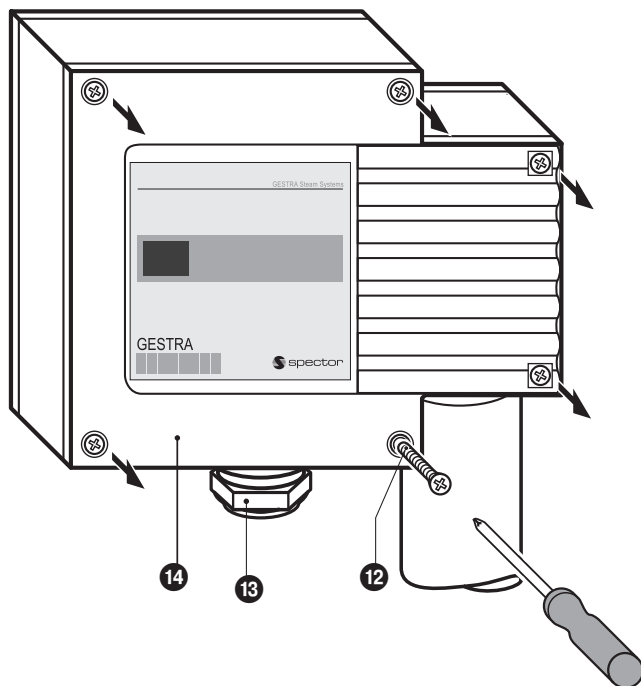

Fig. 10
1. Undo the screws **12** and take off the cover **14** of the terminal box. **Fig. 10**. The arrow on this cover points to the rating plate.
1. Undo the screws **12** and take off the cover **14** of the terminal box. **Figs. 10, 11**